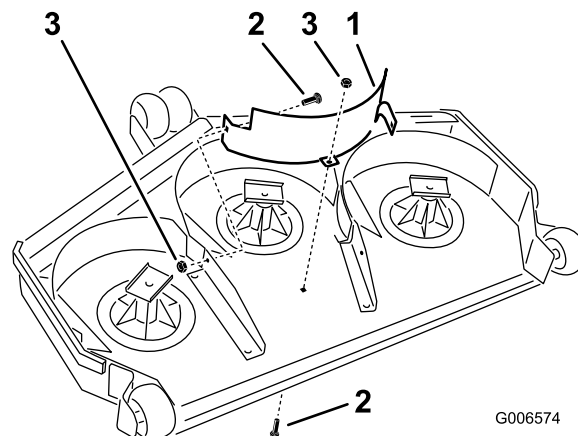

Figure 2
2. Loosely install the center baffle to the mower deck with 2 carriage bolts (3/8 x 1 inch) and 2 locknuts (3/8 inch) (Figure 2).